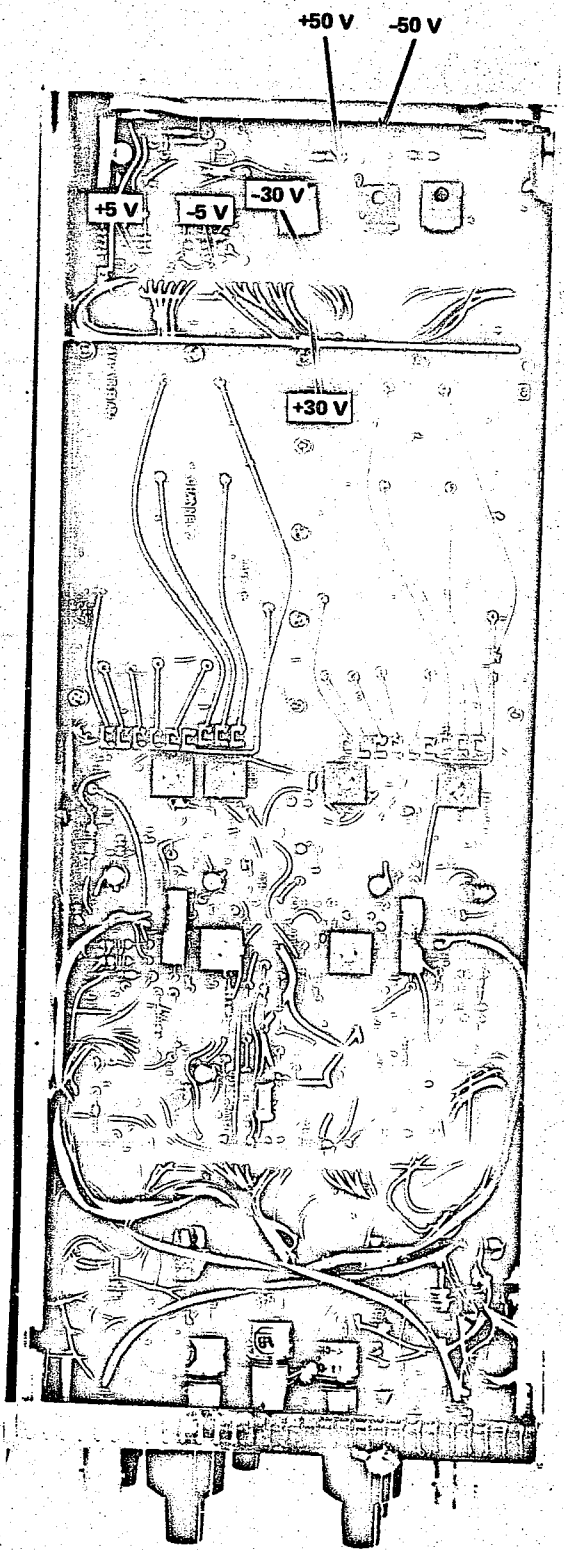

Fig. 7-1. Power Supply Test Points.
The power supply voltages in the 7S14 should be checked before any internal adjustments are made. However, do not check the supply voltages unless you expect to be making internal adjustments. Power supply checks are not to be considered performance checks. The location of the test points are shown on Fig. 7-1. Measure the supply voltages with the 7A13 and a 1X probe or some accurate DC Voltmeter.
The +50 V, -50 V, and +5 V supplies from the mainframe should be within $\pm 3\%$ of their nominal values when measured at the points of the 7S14 as indicated on Fig. 7-1. If the supplies are not within $\pm 3\%$, mainframe repair or adjustment is needed.
- b. Connect the 1X probe to the +50 V test point shown on Fig. 7-1 (resistor R61E).
- d. Push the - polarity button, attach the probe to the -50 V test point shown on Fig. 7-1 (diode VR613), and check the -50 volt supply in the same manner as the +50 volt supply. Make note of the actual value for use in steps f and k.
- e. Connect the 1X probe to the -30 V test point shown on Fig. 7-1 (Pin 3-2) and set the 7A13 COMPARISON VOLTAGE controls to 30.00.
- g. Push the + polarity button, attach the probe to the +30 V test point shown on Fig. 7-1 (Pin 3-1) and check the +30 volt supply in the same manner as the -30 volt supply. The value must be within 1% of 0.6 the value of the +50 volt supply.
- h. Connect the 1X probe to the +5 V test point shown on Fig. 7-1 (Pin 6-1) and set the COMPARISON VOLTAGE controls to 05.00.
j. Push the - polarity button and attach the probe to the -5 V test point shown on Fig. 7-1 (Pin 5-2).